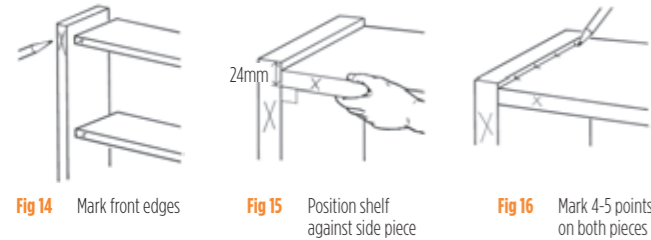

Fig 14 Mark front edges Fig 15 Position shelf against side piece Fig 16 Mark 4-5 points on both pieces
- Mark the front edges of the side pieces and both shelves (see Fig 14), this helps when you mark for dowelling and when you assemble the bookcase.